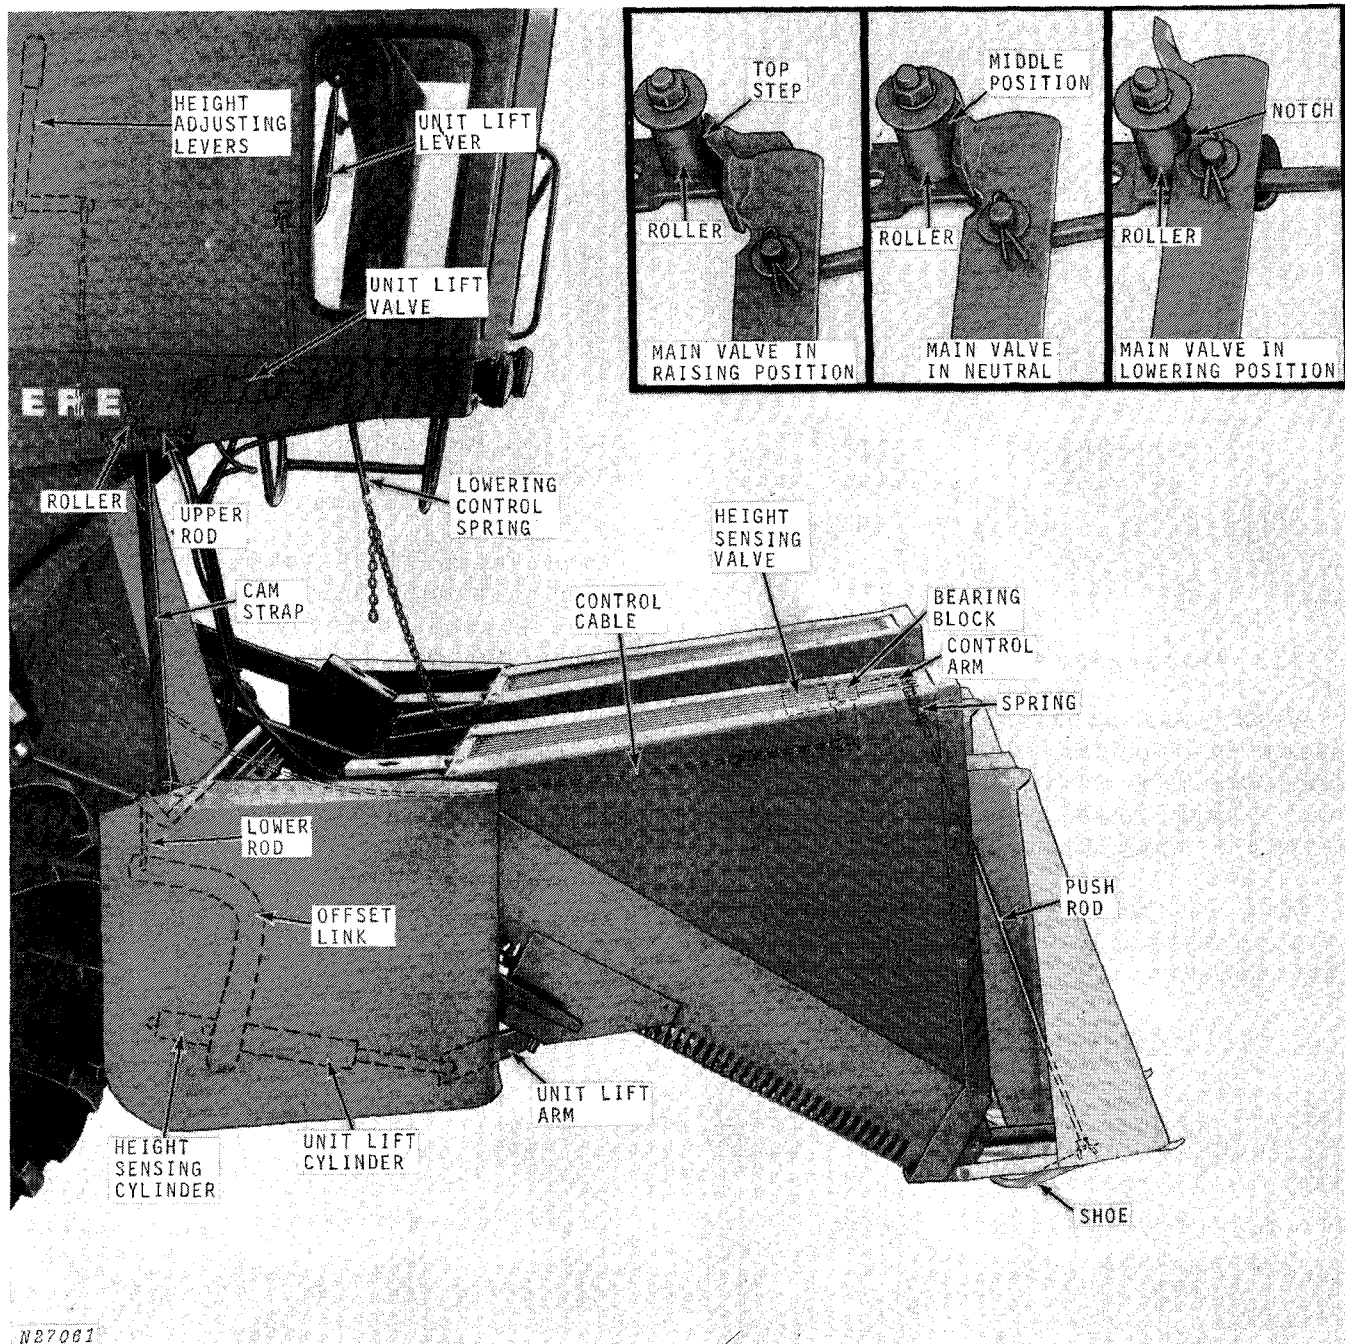

Fig. 27-Automatic Height Control
6. Set height adjusting levers (Fig. 27) to approximately midrange.